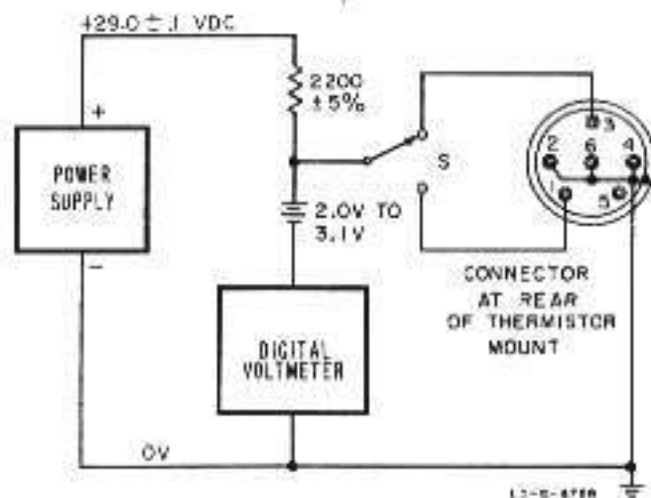

Figure 6. Check on Model 478A Thermistor Resistance Match
52. Match between the thermistors may be checked by comparing the thermistor resistances under simulated operating conditions. Equipment required is indicated in Figure 6. Make connections to the connector at the
rear of the thermistor mount; pins are shown in Figure 6. Note that the small battery in series with the Model 405 Digital Voltmeter is connected in opposition to the power supply. The value of this bucking voltage should be such that voltmeter resolution down to 0.001 volt is obtained. Take readings with switch S connected to pin 1 and then to pin 3. Thermistor match is satisfactory if the two readings do not differ by more than 0.030 volt. Non-operating mounts with readings as high as 0.150 volt can probably be repaired as outlined in the succeeding paragraphs.